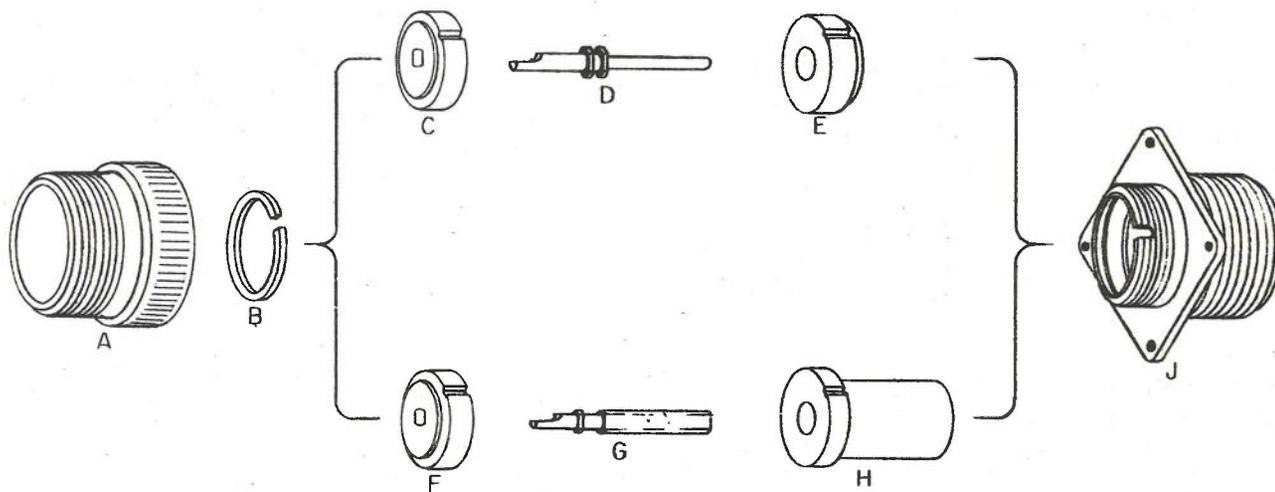

Figure 5-56. Amphenol AN 3100A Solid Shell Wall Receptacle
(5) The inserts of pressurized terminals are usually of one piece construction with contacts molded in. The insert is sealed on the shell and no attempt should be made to remove them. The larger contacts (size 8 or larger) have provisions for removal to prevent damage to the insert by heat.
(6) Table 5-9 shows coupling thread size for various "AN" shell sizes.
(7) Exploded views of some of the more common types of connectors are shown in Figures 5-56 through 5-71.